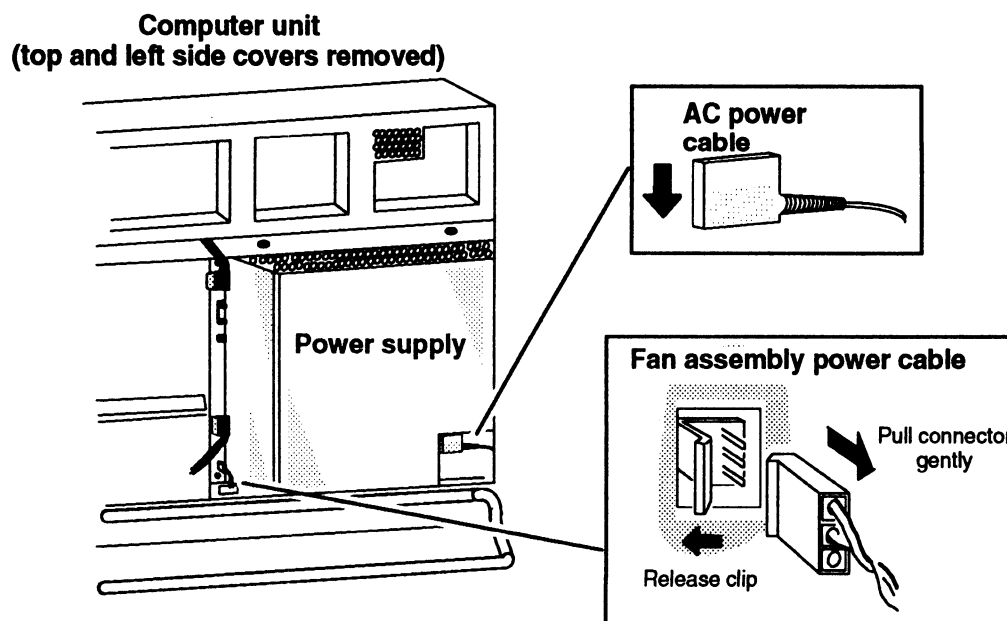

Figure 11-1 Unplugging the Ac Power and Fan Assembly Power Cables
1. Unplug the ac power and fan assembly power cables from the power supply as shown in Figure 11-1.